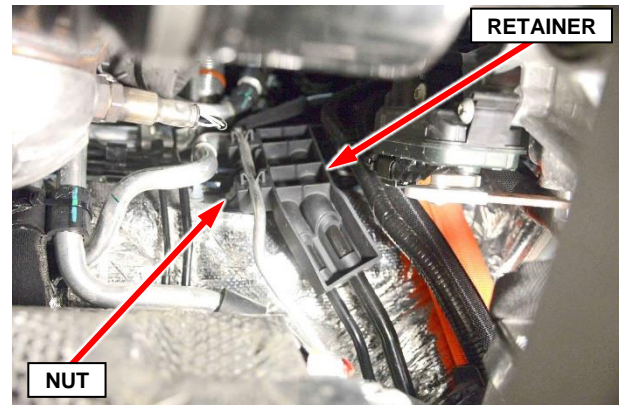

Figure 57 – Fuel Line Retainer Nut
83. Remove the nut securing the fuel line retainer to the engine compartment cowl then release the fuel lines from the retainer and remove the retainer (Figure 57).